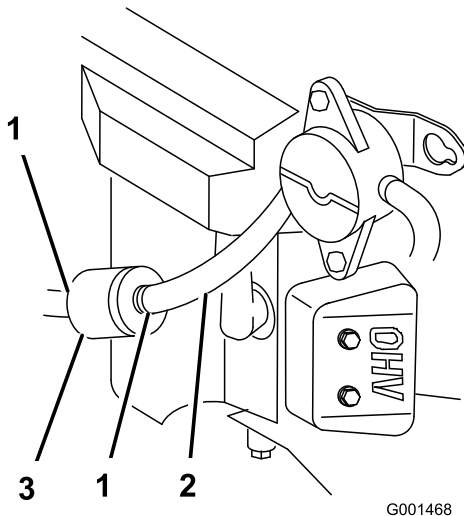

Figure 41
5. Close the fuel shutoff valve (Figure 41).
6. Squeeze the ends of the hose clamps together and slide them away from the filter (Figure 41).
8. Install a new filter and move the hose clamps close to the filter (Figure 41).
3. Close the fuel shutoff valve (Figure 41).
4. Loosen the hose clamp at the fuel filter and slide it up the fuel line away from the fuel filter (Figure 41).
5. Disconnect the fuel line from the fuel filter (Figure 41).
Note: Allow gasoline to drain into a fuel container can or drain pan (Figure 41).
7. Install the fuel line onto the fuel filter. Slide the hose clamp close to the fuel filter to secure the fuel line (Figure 41).